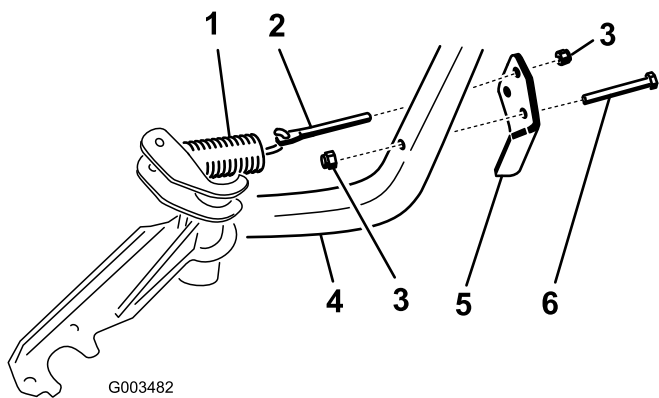

Figure 6
4. Insert the spring rod into the hole in the spring bracket and loosely secure it with a locknut (3/8 inch). Position the spring rod as shown in Figure 6.
6. Mount the spring bracket to the front frame tube with a bolt (3/8 x 2-3/4 inch) and a locknut (3/8 inch). Position the spring bracket as shown in Figure 6.